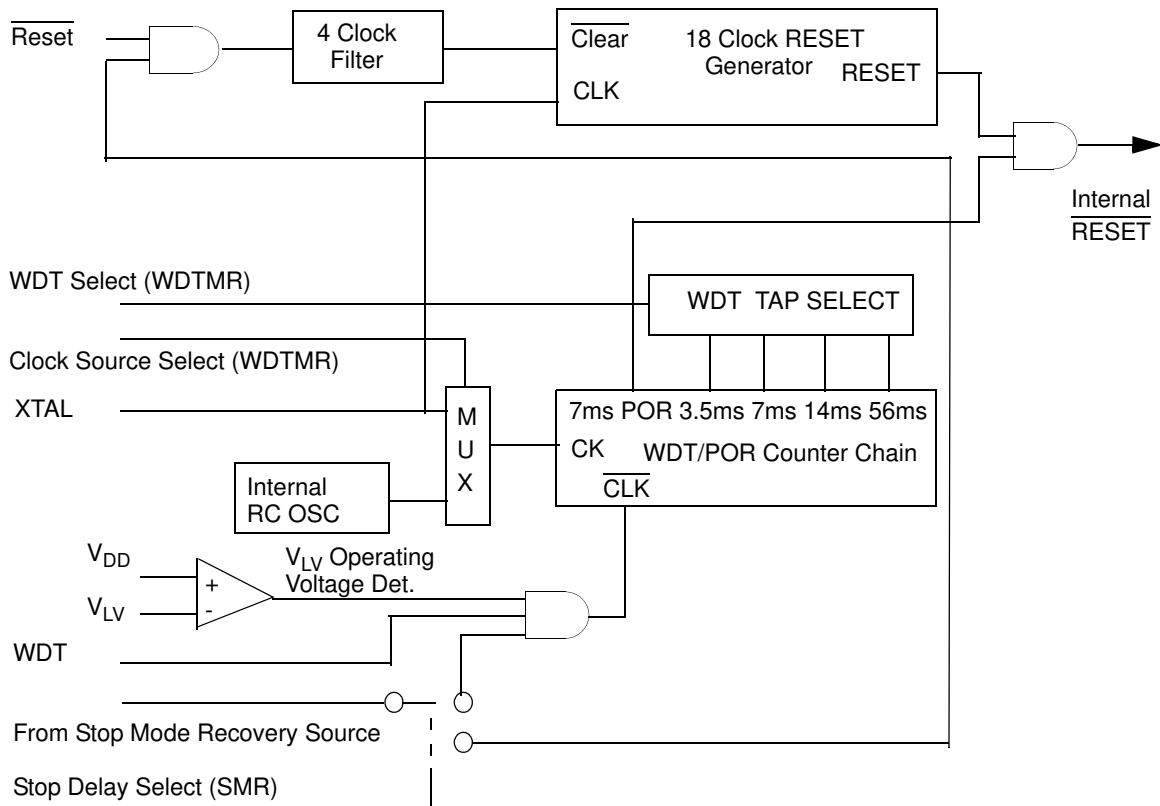

Figure 14. Resets and Watch-Dog Timer Example
**WDTMR Register Accessibility.** The WDTMR register is accessible only during the first 64 internal system clock cycles from the execution of the first instruction after Power-On Reset, Watch-Dog Reset, or Stop-Mode Recovery. After this point, the register cannot be modified by any means, intentional or otherwise. The WDTMR cannot be read and is located in Bank  $F_h$  of the Expanded Register File at address location  $0F_h$  (Figure 14).